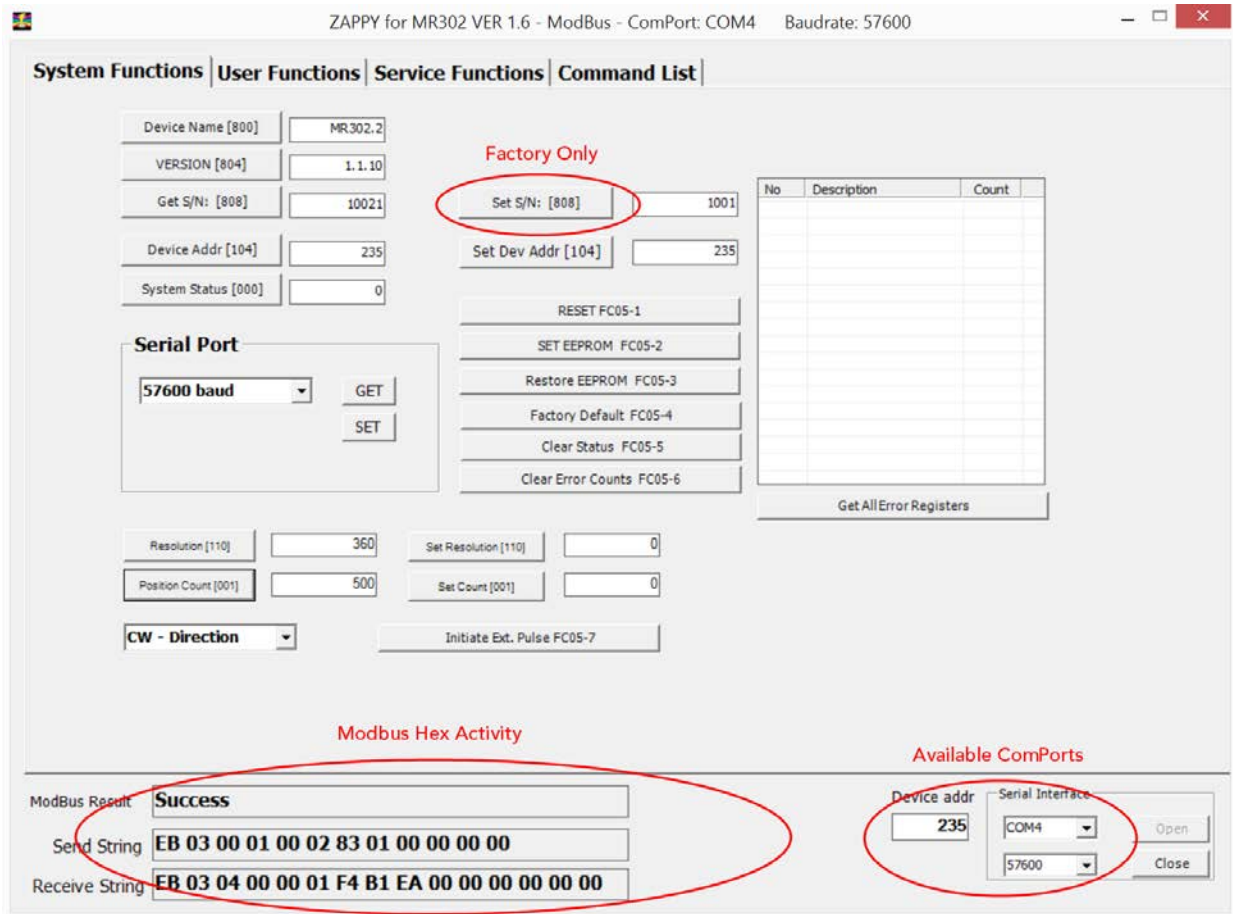

Figure 8. ZAPPY® System Functions screen
3. ZAPPY® will open up to the System Functions screen as shown in Figure 8.
Figure 8 shows example of System Functions screen.